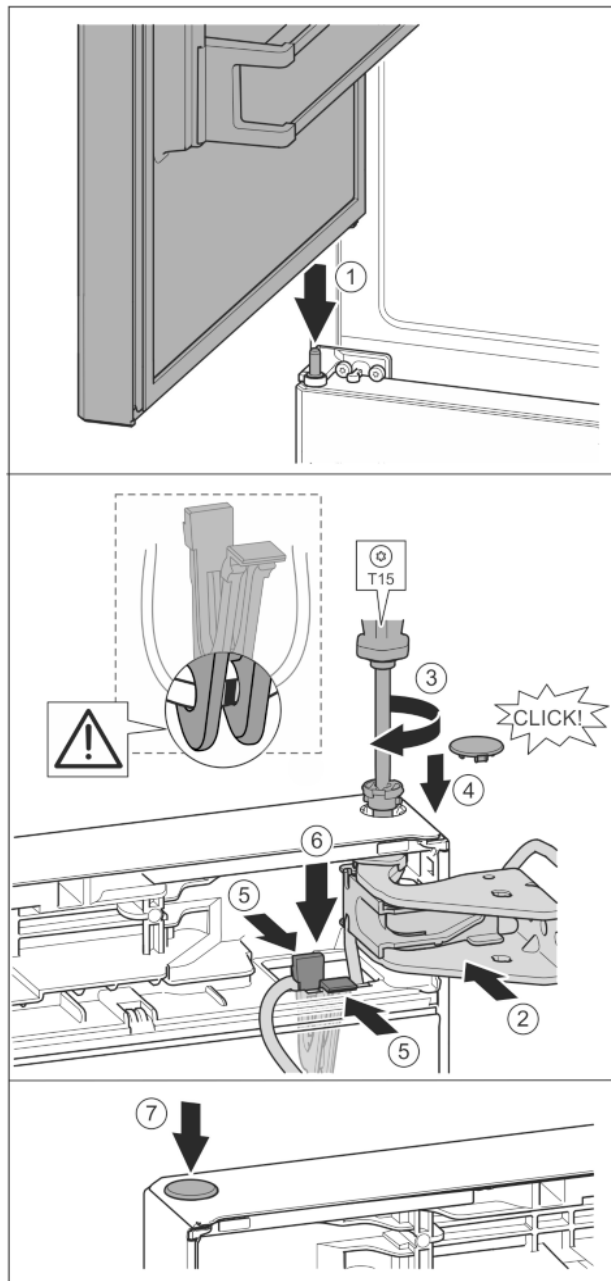

Fig. 36
- Place the upper door on the centre bearing pins Fig. 36 (1)
- Align the top of the door with opening in the bearing bracket. Fig. 36 (2)
- Insert the bolt and tighten with a T15 screwdriver. Fig. 36 (3)
- Fit the protective cover to protect the door: Insert the protective cover and check that it is attached to the door. If not, insert the bolt fully. Fig. 36 (4)
- ▶ Insert the holder with its cable into the opening. *Fig. 36 (5)*
- ▶ Press the holder downwards until the tab clicks into place. *Fig. 36 (6)*
- ▶ Insert the plugs. *Fig. 36 (7)*